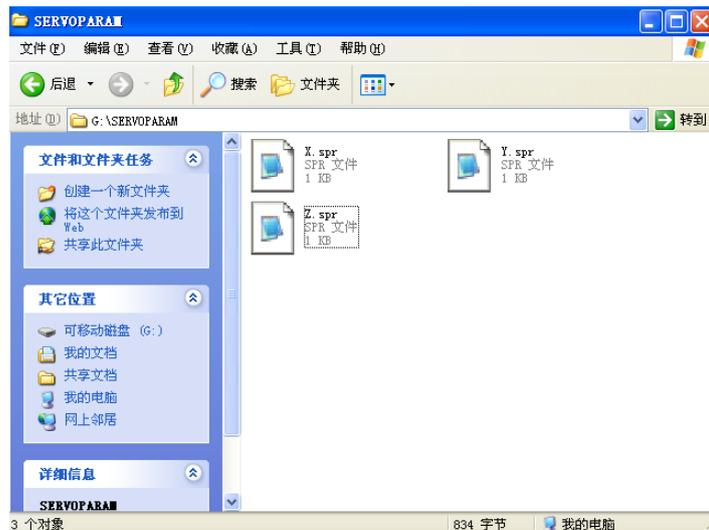

Fig. 9-6
5. After the Step 3 is done, the file “SERVOPARAM” is created in the U disk, the previous backed up parameter files are saved in the file as Fig. 9-6:
1. Ensure that the file “SERVOPARAM” has been created in the U disk, and the backed up servo parameters are saved to the file as Fig. 9-6.